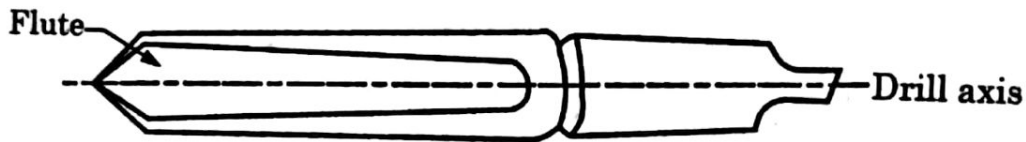

Fig. 2.25 : Straight Fluted Drill
2. **Straight Fluted Drill :** Fig. 2.25 shows a straight fluted drill. This drill is provided with two flutes (back to back) which are straight and run parallel to the drill axis.